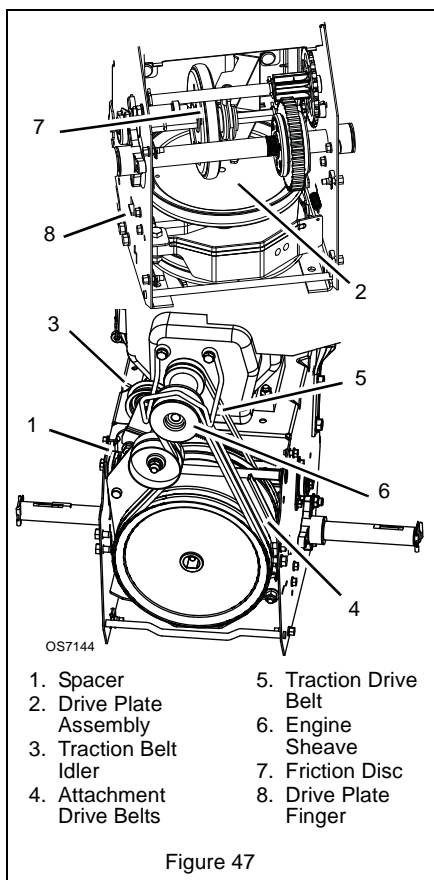

Figure 47
2. To gain belt clearance, remove swing gate spacer and slide drive plate over so that finger clears stop hole in frame and can swing past it. See Figure 47.